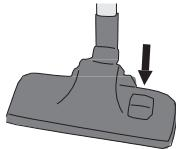

Figure 4 Soft and hard surfaces
4. Press the foot button on the nozzle to set the combi nozzle for use on hard or soft surfaces, see Figure 4. For use on hard surfaces, press the foot button on the combi nozzle to extend the brushes. Lift the button for use on soft surfaces.